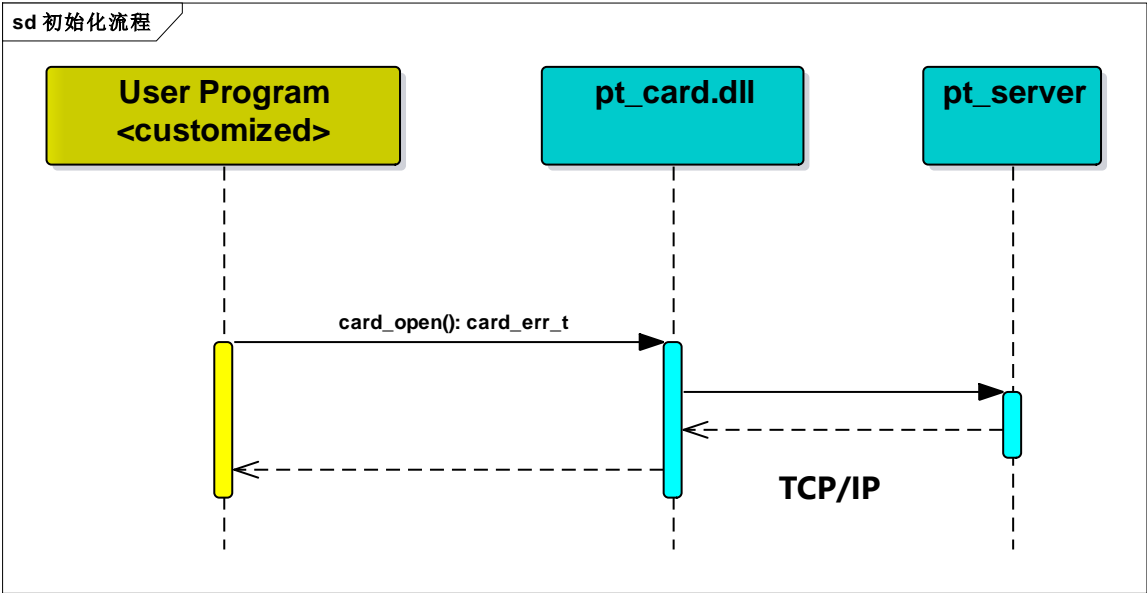

Figure 3.1 Initialization Process
- Initialization process: The user program completes the connection of the reader by calling the interface function of pt_card.dll, as shown in Figure 3.1.